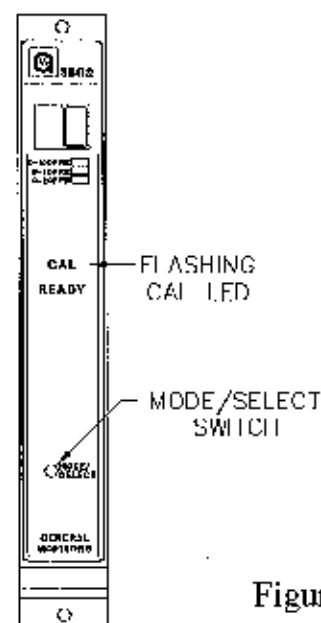

Figure 14
- Enter the Calibration Check mode by pressing and holding the Mode/Select switch until the **CAL** LED begins to flash (about ten seconds). When the **CAL** LED begins to flash, release the Mode/Select switch. The unit is now in the Calibration Check Mode (figure 14).
- 2 Place the unit in the CAL Check Mode per the instructions on page 17 of this instruction manual (figure 14).